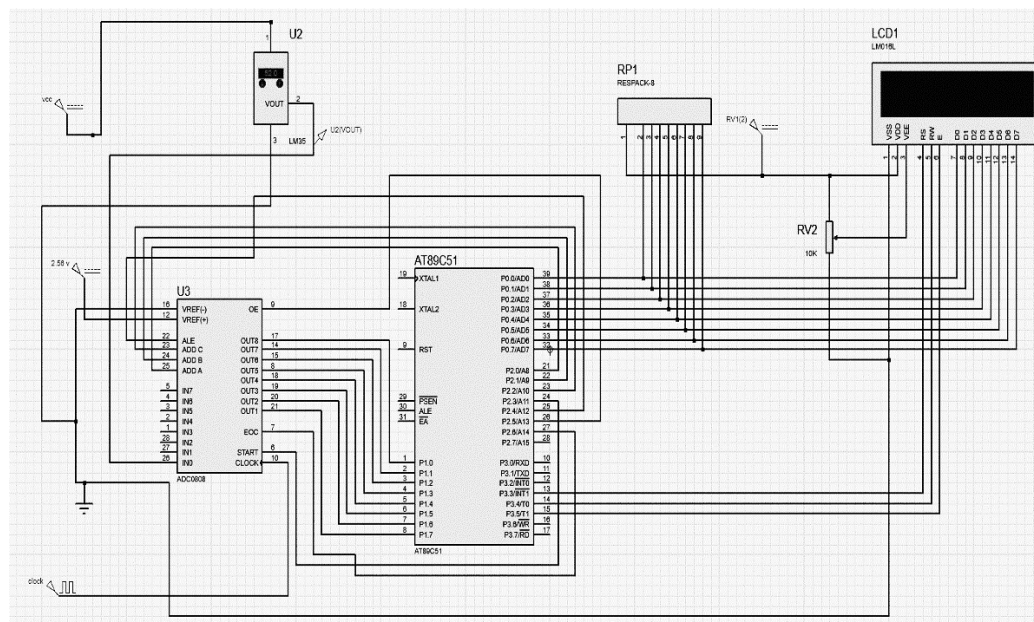

Fig 28.4 8051 connection to ADC and LM35
8. Interface LM 35 to ADC 0808 IC and connect ADC output and LCD display to the microcontroller as per circuit diagram shown in fig 28.4